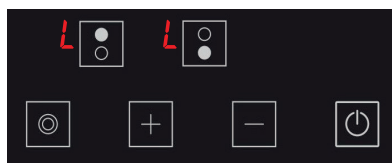

Figure 17
1. The **L** icon is displayed on all displays when the stove is on and the child lock is active. (see Fig. 17) The **L** and **H** icons are displayed alternatively if any hob is hot. You may turn the stove on or off with the **Power** key only.